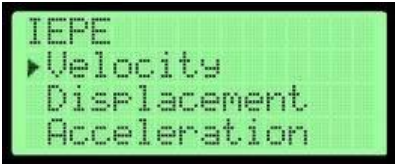

Figure 37 Parameter selecting for simulation
After setting the cursor to point to the NEXT Item and by pressing Enter (E), the user enters the submenu system for selecting a parameter for simulation (See Figure 37). The user can select the following: Velocity, Displacement or Acceleration. By pressing Back key (↵) one will return to the Main Menu.